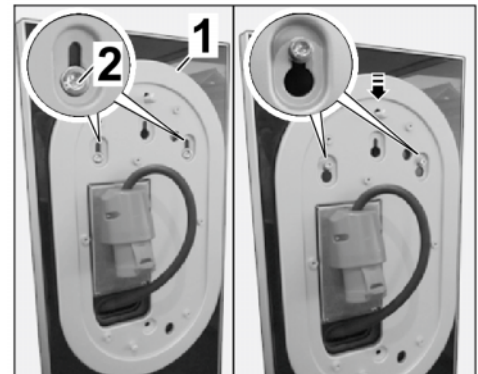

Figure 22
5.1.1 Centre the charging dock holder ⇒ *Figure 22 -1-* on the cheese head bolts at the top ⇒ *Figure 22 -2-* and push it down into the slot ⇒ *Figure 22 -arrow-*.